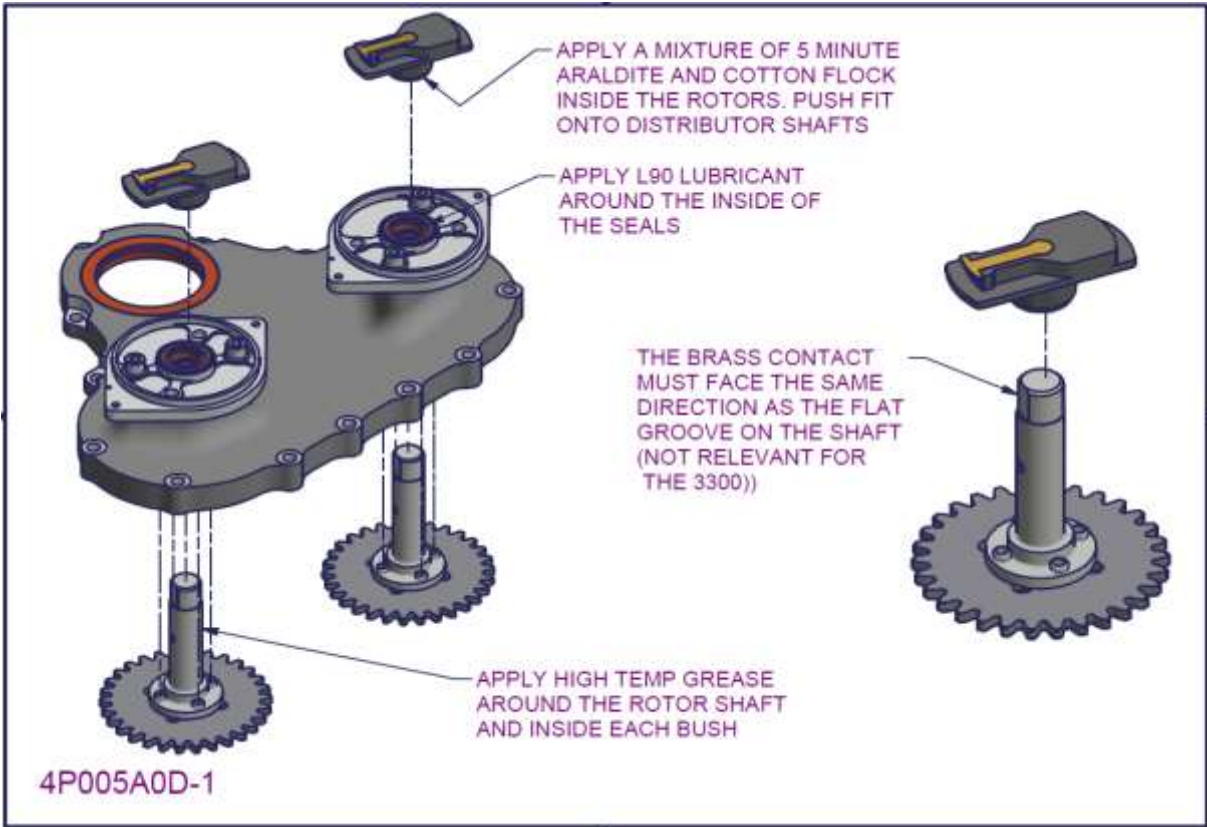

Figure 82 – 2200/3300 Distributor gearbox subassembly 5
- Ensure that the rotor is fitted on the distributor shaft with the flat face or machined groove and the brass contact plate pointing in the same direction (shown above in Figure 82)